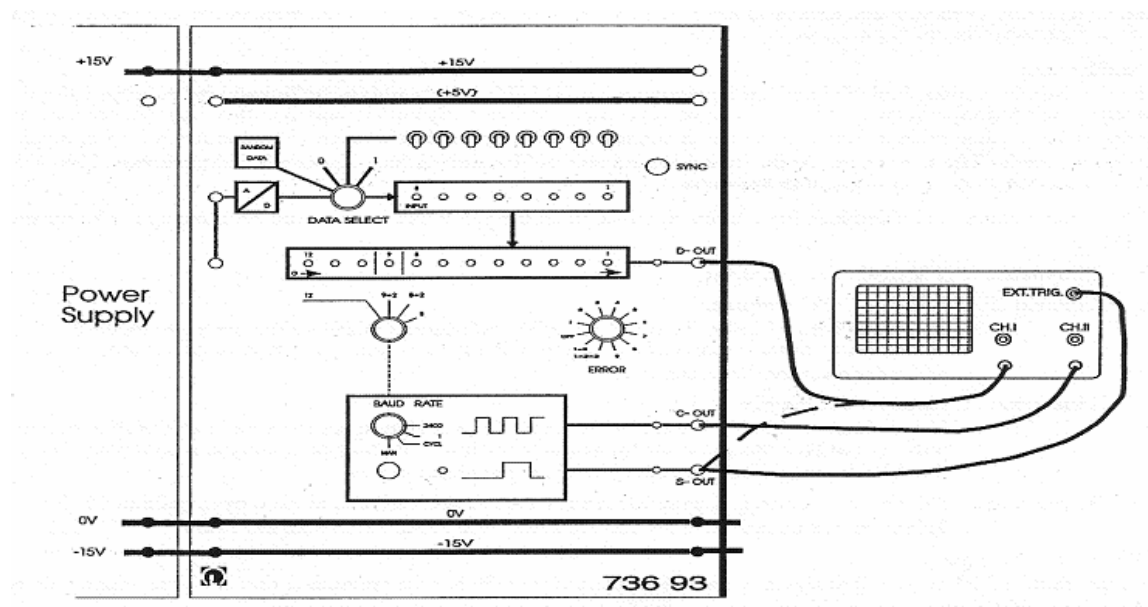

Figure 2-1: Experiment set-up for experiment 2
- Set up the experiment as specified in Figure 2-1 and switch on the power supply. The oscilloscope is first used in the second part of the experiment.
- Connect the oscilloscope as specified in Figure 2-1 and carry out the settings according to the specifications in section titled "Introductory Notes". Set the Baud rate switch to the 2400 bit/s position.